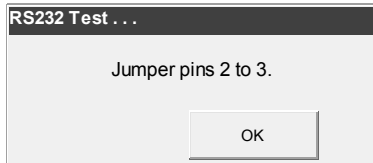

Fig. 7-21 Jumper Pins 2 to 3
- It is important to have pins 2 and 3 (send and receive - see Appendix A, p. A-6) shorted together (Fig. 7-21).